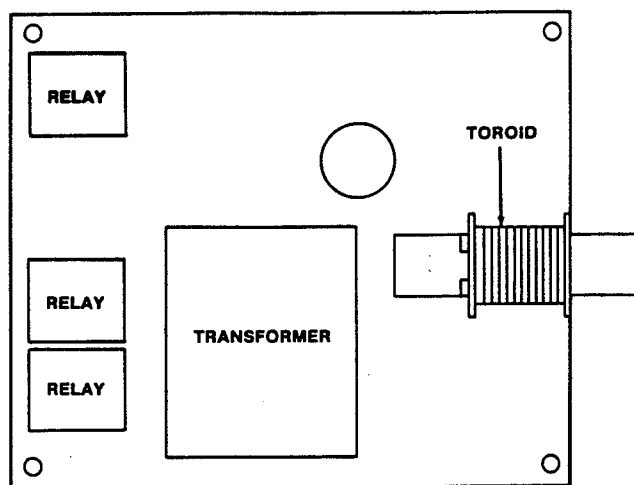

Figure 49. Power Board
The power board is where the actual sensing of the drive motor energy usage occurs (Fig. 49).
The program module has six L.E.D. indicator lights (Item A, Fig. 49) to aid in the rapid troubleshooting and adjusting of the freezer. A description of each indicator light is given below.
6. The TEST indicator light is controlled by the tenth position on the Dip Switch (Item F, Fig. 49). When this switch is open, the control operates normally. When this switch is closed, the control is in the TEST mode. The TEST mode is used for calibration of ON and OFF times starting in the OFF cycles, of the IDLE mode. During this mode, all power outputs are off. An L.E.D. associated with the TEST mode illuminates to indicate the time the compressor is on. This ON time is registered in real time, 1 second = 1 second. The amount of time the L.E.D. is off represents 1/10 of the OFF time at ambient temperature of 90°F (32.2°C) of the program module.
- B. The FINE CONSISTENCY adjustment (Item B, Fig. 49) is used to make fine adjustments to the product consistency. This adjustment is made via an adjusting potentiometer.
- C. The COARSE CONSISTENCY adjustment (Item C, Fig. 49) is used to make rough adjustments to the product consistency. This adjustment is made via an adjusting potentiometer.
- D. The FREEZER OFF TIME adjustment (Item D, Fig. 49) is used to set the freezer OFF time. To increase the freezer OFF time, turn the adjusting screw 1/30 (12°) of a turn clockwise. To decrease the OFF time, turn the adjusting screw 1/30 (12°) of a turn counterclockwise. The OFF time is ambient compensated to allow the freezer to run uniformly at different ambient temperatures. The program module will sense the ambient temperature and automatically increase the OFF time as the room temperature decreases or decrease the OFF time as the room temperature increases.
- E. The COMPRESSOR ON TIME adjustment (Item E, Fig. 49) is used to set the refrigeration ON (run) time. To change the refrigeration ON time, turn the ON time adjusting screw 1/30 (12°) of a turn clockwise to increase ON time or 1/30 (12°) of a turn counterclockwise to decrease the ON time.
- F. The DIP SWITCH (Item F, Fig. 49) is a ten position, programmable switch. The DIP SWITCH control has the ability to be user programmed to select the sequence and mode and operation for eight consecutive idle cycles after either the PUSH TO FREEZE or spigot switch has been activated. This is accomplished by the first eight of the ten positions. The function of the eight positions is as follows: Each